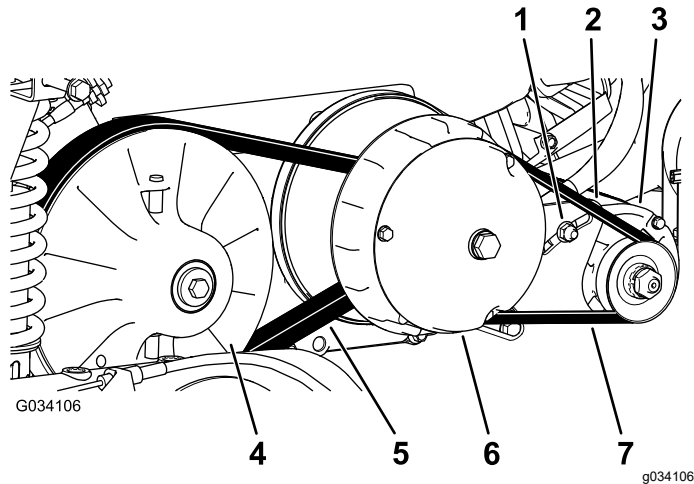

Figure 67
6. Rotate and inspect the belt (Figure 67) for signs of excessive wear or damage.
3. Rotate and route the belt over the secondary clutch (Figure 67).
4. Remove the belt from the primary clutch (Figure 67).
5. Align the new belt over the primary clutch (Figure 67).
6. Rotate and route the belt over the secondary clutch (Figure 67).
2. Loosen the pivot nut for the starter generator (Figure 67).
4. Apply downward pressure to the pry bar to rotate the starter down in the slot until the belt tension only allows 6 mm (1/4 inch) belt deflection with 44 N·m (10 ft-lb) of force (Figure 67).
5. Tighten the pivot nut hand tight, and remove the pry bar (Figure 67).